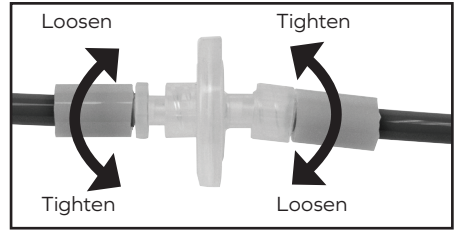

Fig. 4
- Grasp sleeve clamp on both sides of filter and twist counterclockwise to disconnect filter (Fig. 4).
- Grasp sleeve clamp on both sides of filter and twist clockwise to hand tighten (Fig 4). Do not over tighten.